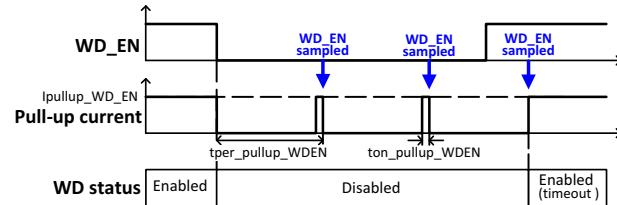

Figure 14. WD_EN pull-up current source activation
- ◆ Temperature (see Figure 14)